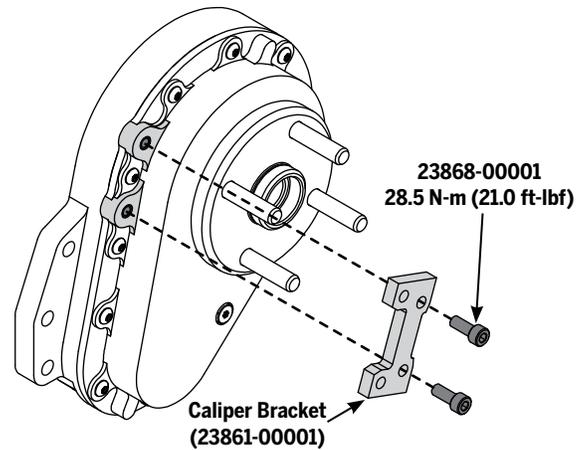

Figure 125: Caliper Bracket
- a. Using a 6 mm hex wrench, remove the two fasteners on the Caliper Bracket. Set the Caliper Bracket aside. See **Figure 125**.
6. Using a 6 mm hex wrench, install the Caliper Bracket. See **Figure 125**. Torque to **28.5 N-m (21.0 ft-lbf)**.